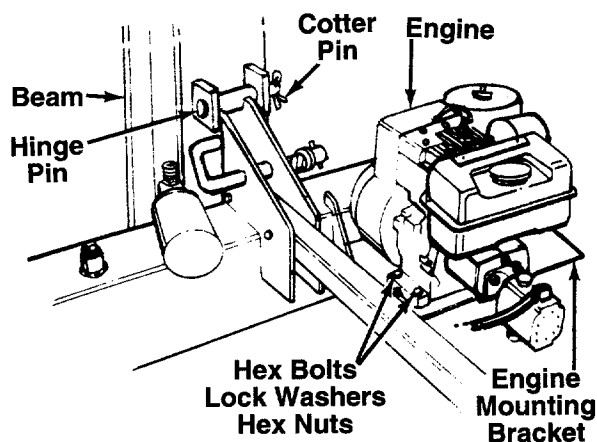

FIGURE 7.
2. Remove the cotter pin and the hinge pin, located on top of the reservoir tank assembly. Move the reservoir tank assembly in position against the beam. See figure 7. Line up holes by lifting hitch end of assembly.
Place the engine and pump assembly in position on the engine mounting bracket as shown in figure 7. Secure with hardware found in the plastic bag. Insert hex bolts from the top. Secure with lock washers and hex nuts, tightening securely.
1. Pull the locking rod on the beam support/latch bracket away from the log splitter tongue (refer to figure 7), and pivot it down. Carefully lower the wedge, beam and cylinder assembly to the horizontal position. Secure the beam with the locking rod.